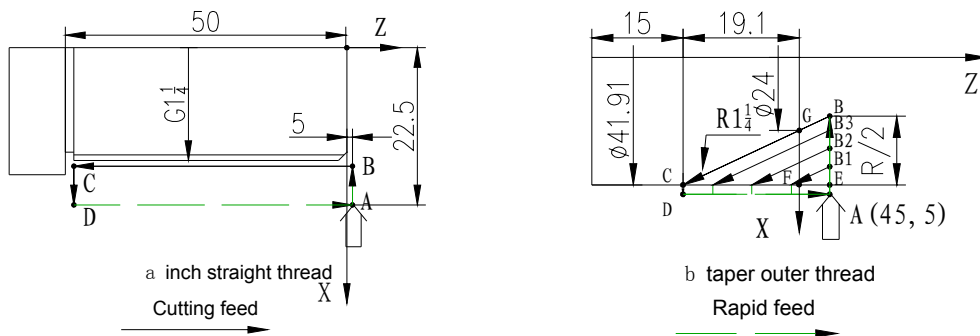

Fig. 4-28
5) Compound example: as Fig. 4-28
Example 1: Metric straight thread as Fig. 4-28 a. ($G1 \frac{1}{4}$: 11 teeth, $D=41.910$, $D2=40.431$, $D1=38.952$)
Example 2: Outer taper thread as Fig. 4-28 b ($R1 \frac{1}{4}$: $D=41.910$, $D2=40.431$, $D1=28.952$, $P=2.309$, the valid length of thread is 19.1)